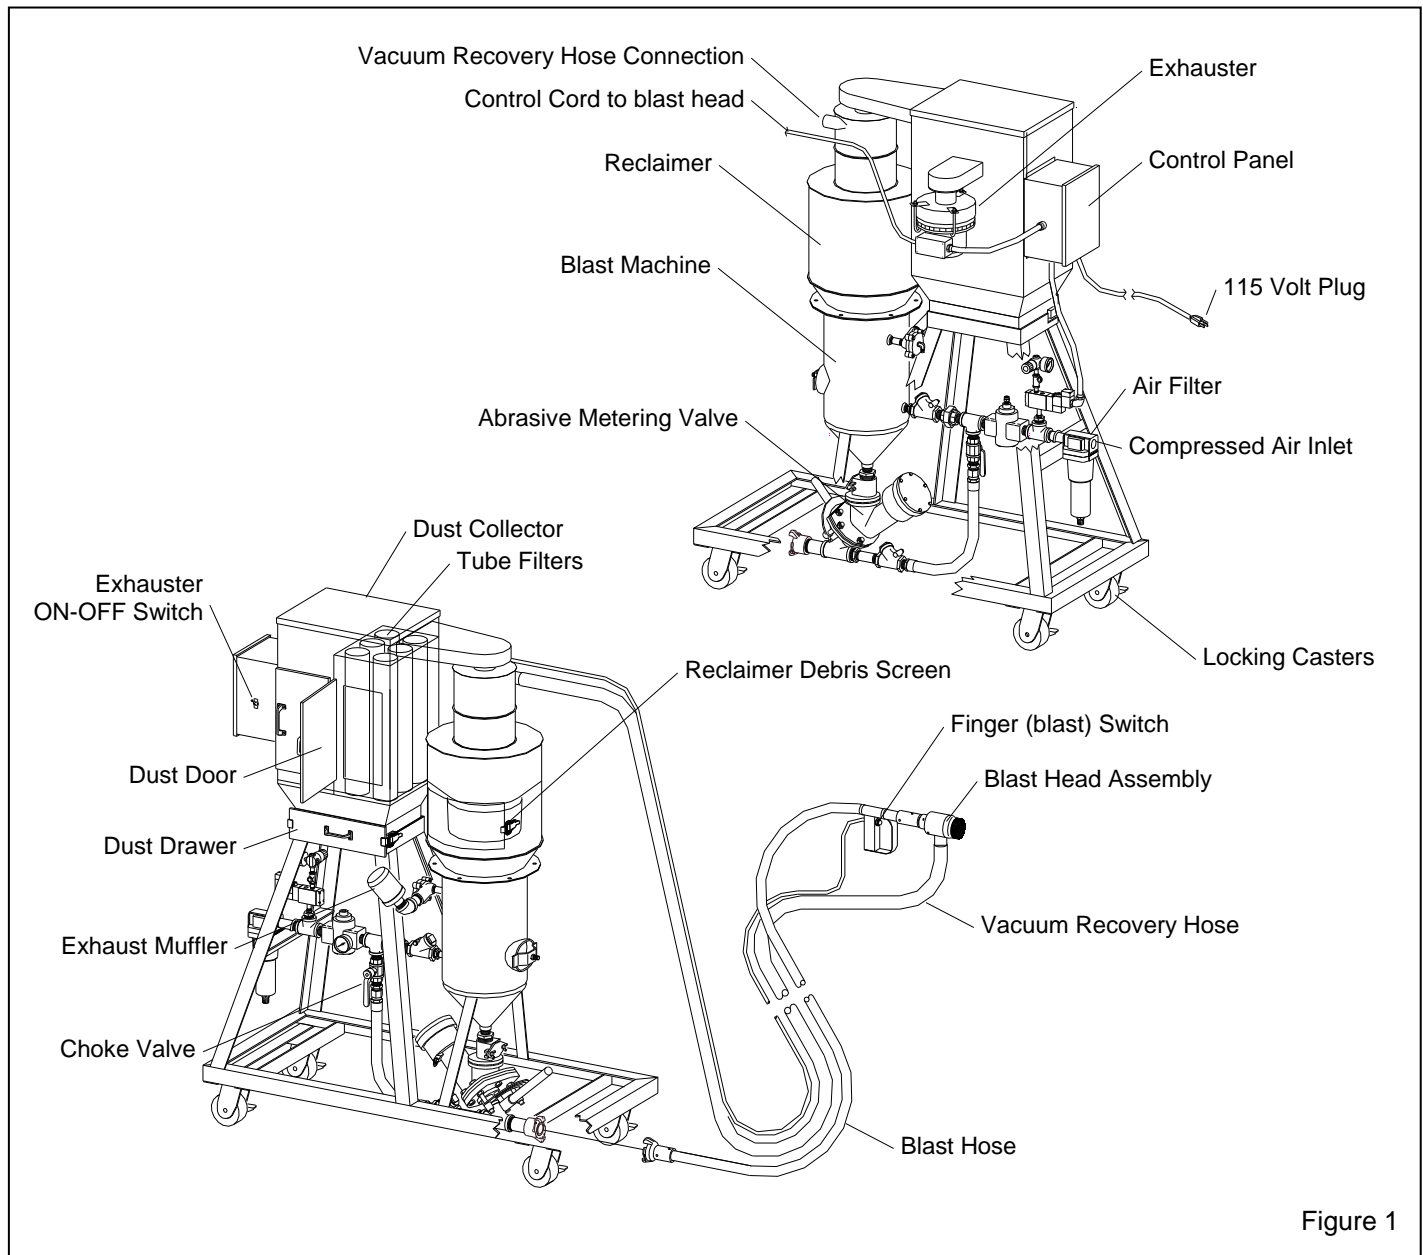

Figure 1
**1.3.1 Components, Figure 1**